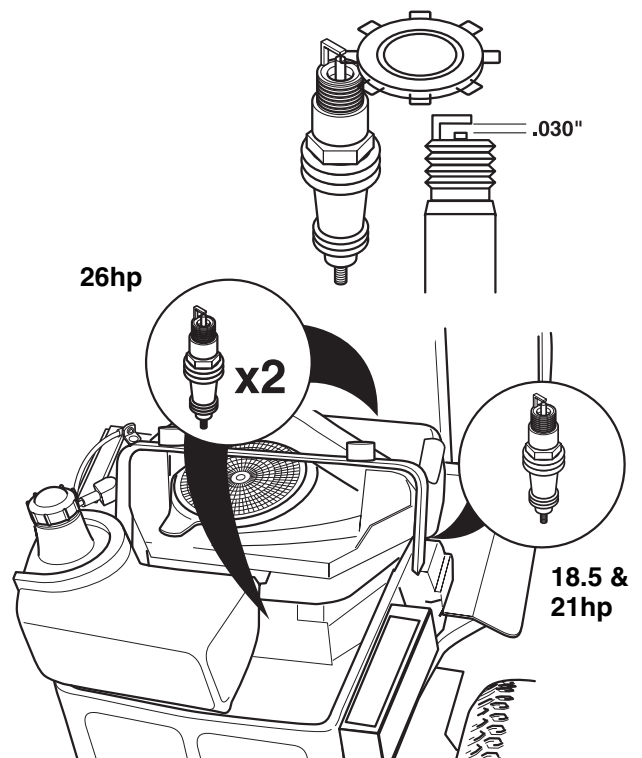

Figure 41. Spark Plug Gapping
4. Check the spark plug gap. It should be .030" (see Figure 41).